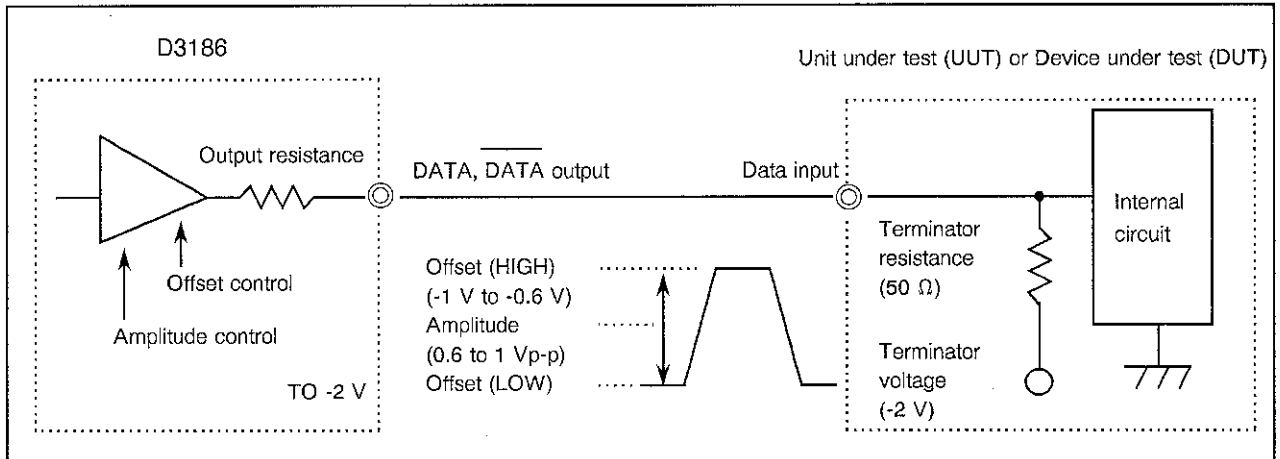

Figure 4-2 DATA and DATA Output, DC Connection, - 2 V Termination, and ECL Level
- (2) When the UUT/DUT data input connection is DC and the terminator voltage is -2 V, ECL level (see Figure 4-2.):